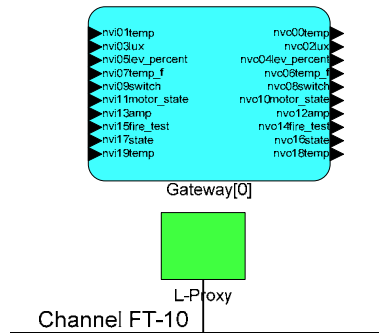

Figure 94: LonMaker drawing with one L-Proxy.
- Select the device and right-click on the device shape as shown in Figure 94.